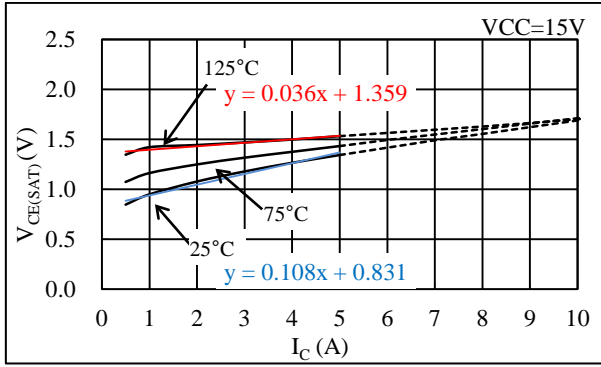

Figure 14-1. Linear Approximate Equation of  $V_{CE(SAT)}$  vs.  $I_C$  Curve
Steady-state loss in an IGBT can be computed by using the VCE(SAT) vs. IC curves, listed in Section 15.3.1. As expressed by the curves in Figure 14-1, linear approximations at a range the IC is actually used are obtained by: VCE(SAT) = α × IC + β. The values gained by the above calculation are then applied as parameters in Equation (4), below. Hence, the equation to obtain the IGBT steady-state loss, PON, is: